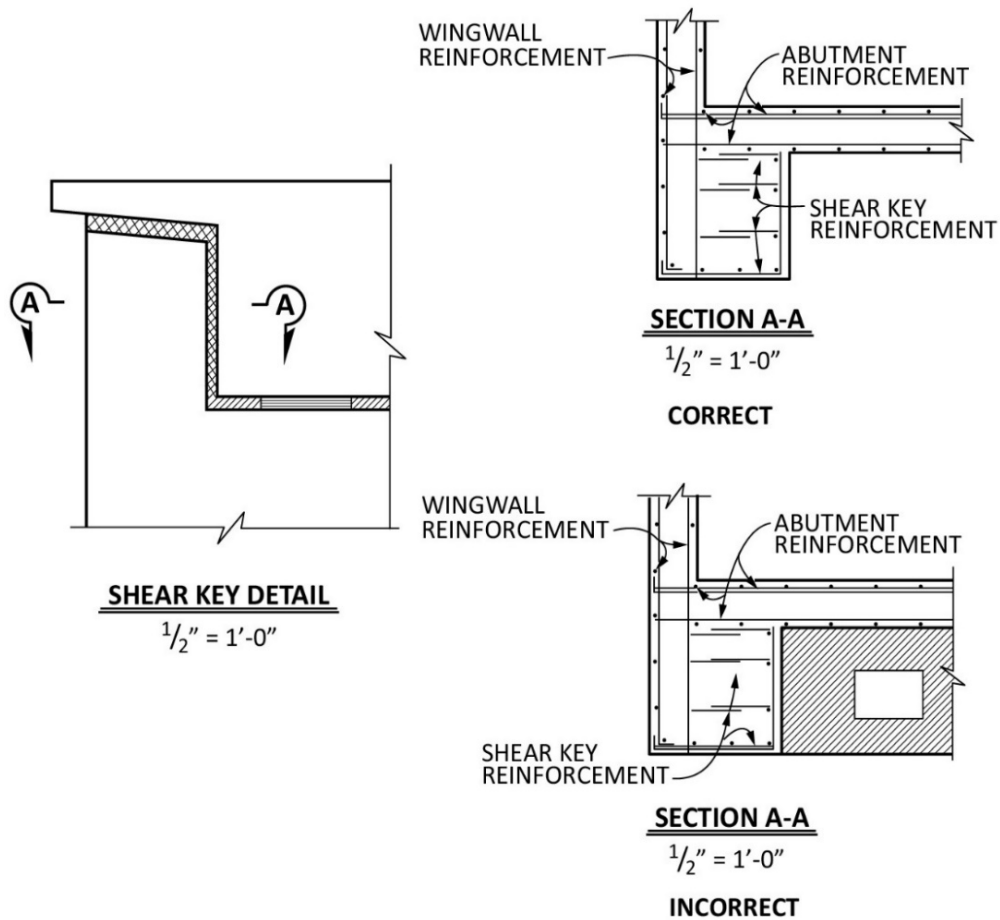

Figure 1.1.2 Section view
- A SECTION view shall show all intersecting lines that intersect the SECTION cut plane, whereas a VIEW is a projection. Unlike a VIEW, do not show hidden lines, reinforcement, or other items beyond the cut plane in a SECTION. For an example of a SECTION view, see Figure 1.1.2.